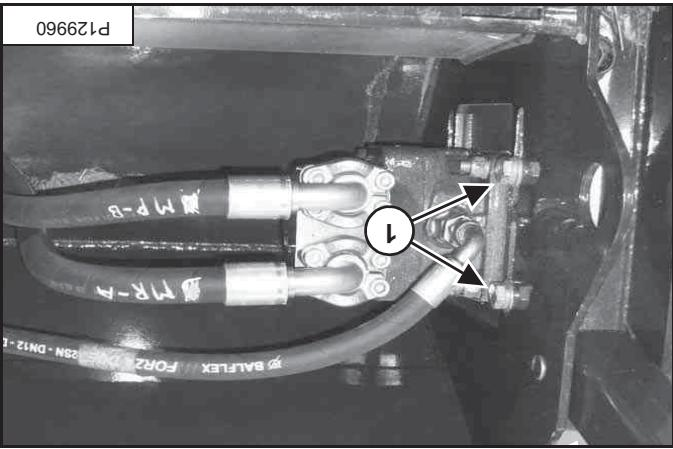

Figure 110
**Installation:** After belts are tightened, tighten 4 motor plate bolts (item 1) [Figure 110] 190 - 245 N·m (140 - 180 ft-lb).
Loosen the four bolts (item 1) from the motor plate [Figure 110].